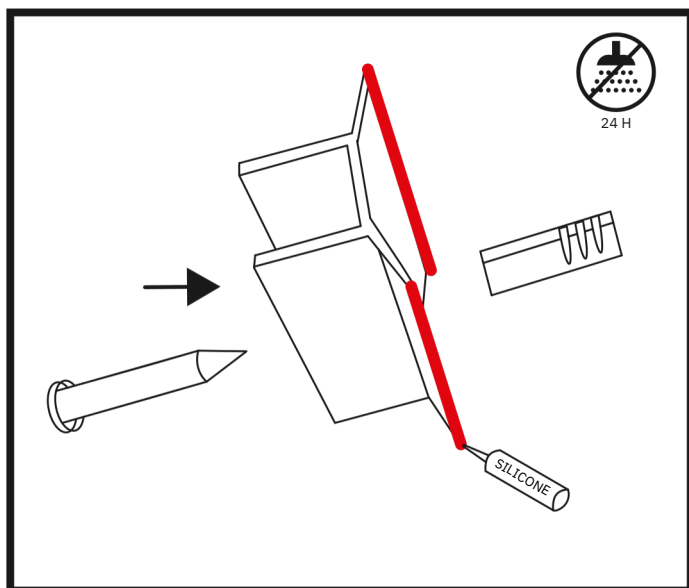

Figure 3
6. To attach the profile, apply silicone to the edges of the profile and place it on the wall, according to the previously marked locations. (Fig 3)